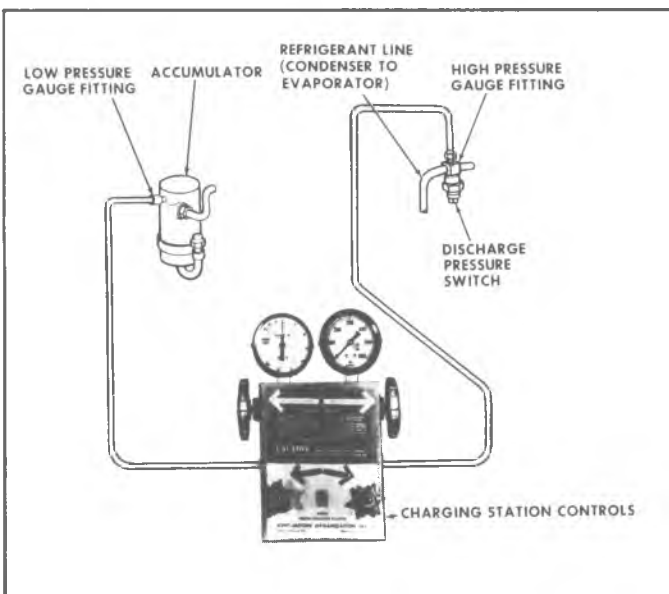

Fig. 49--Charging Schematic--C-K Truck Shown
6. Referring to Figure 49, turn the high pressure control (2) one turn counterclockwise (open). Crack open the low pressure control (1) and allow refrigerant gas to hiss from the low pressure gauge line for three seconds, and then connect the low pressure line to the low pressure fitting on the system.